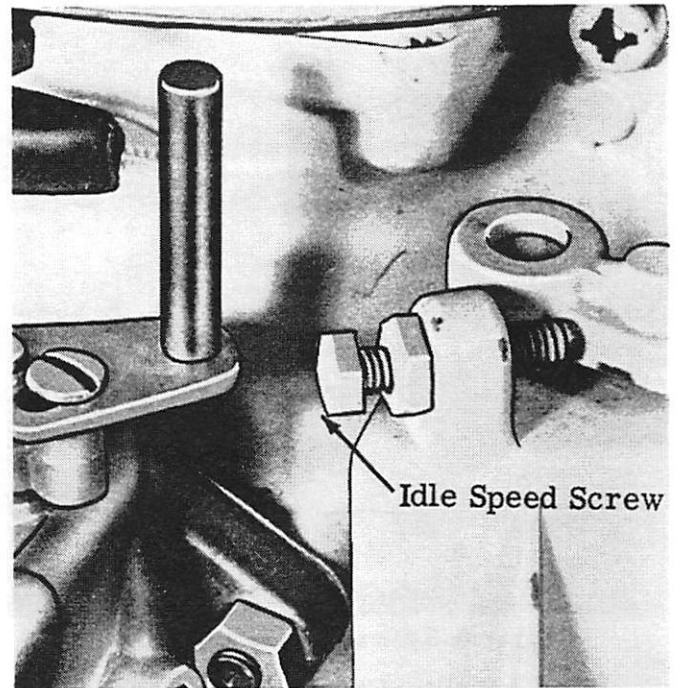

Figure 2. Adjusting Idle Speed
2. Idle engine and adjust "idle speed" screw on stop bracket (Figure 2) so that engine idles at approximately 500 RPM in forward gear.